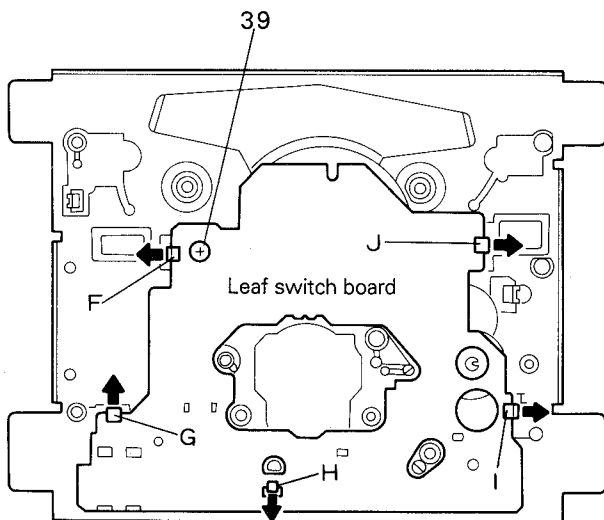

Fig. 7-30
■ **Leaf switch board** (Fig. 7-30)
1. Remove a screw (39) retaining the leaf switch board from the chassis basis.